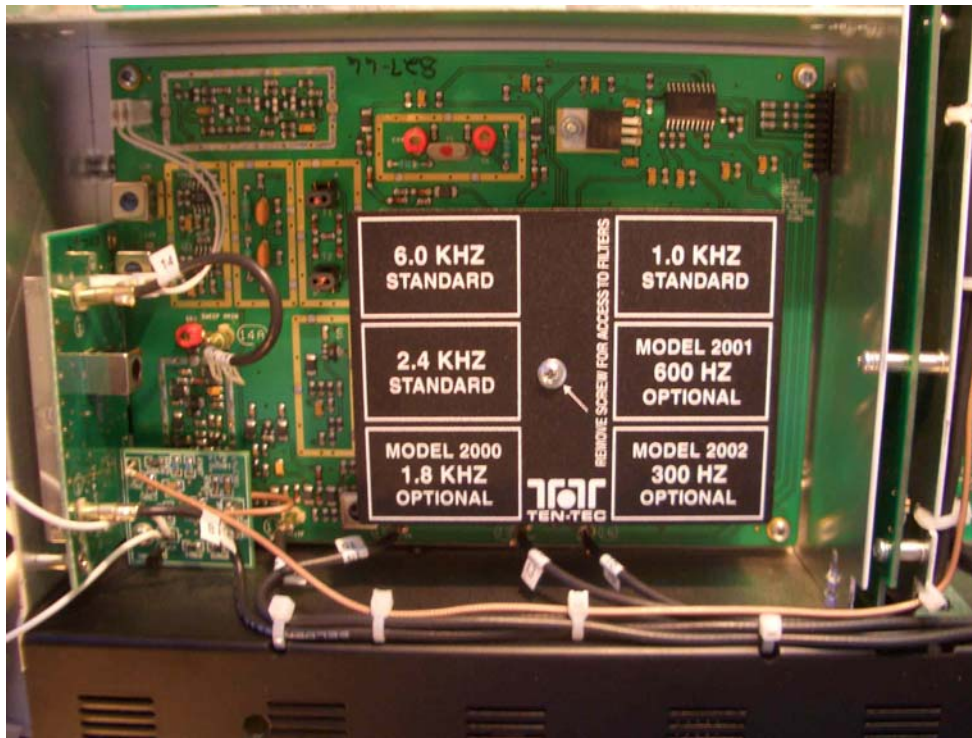

Figure A-3: Modified 9 MHz IF board with Z10000 Buffer at lower left
11. Mount the Z10000 buffer with a 1 inch metal stand-off and appropriate longer 4-40 screw in the lower left corner of the 9 MHz IF enclosure (Figure A-3).